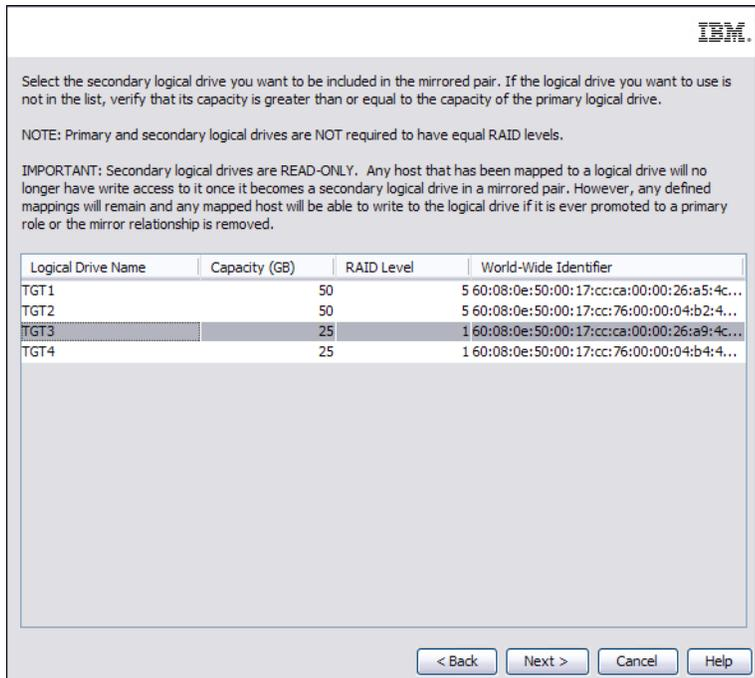

Figure 5-18 Select Secondary Logical Drive
4. Select a secondary logical drive for the remote mirror pair in the next window (Figure 5-18).